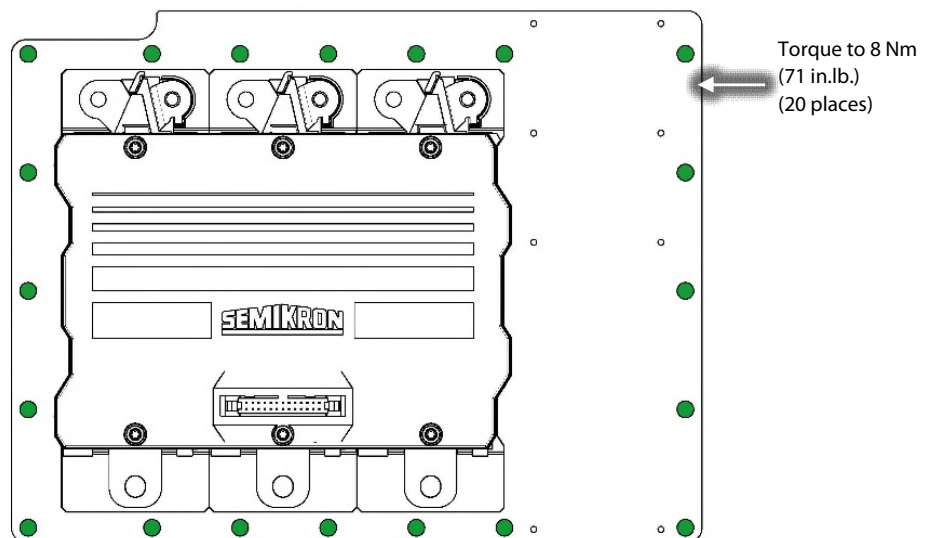

Figure 26 – Inverter Screw Locations
- Install the provided Inverter fasteners in a diagonal pattern and torque to 3 Nm (27 in.lb.) on the first pass then to 8 Nm (71 in.lb.) on the second pass. Refer to Figure 26 (Inverter Screw Locations).